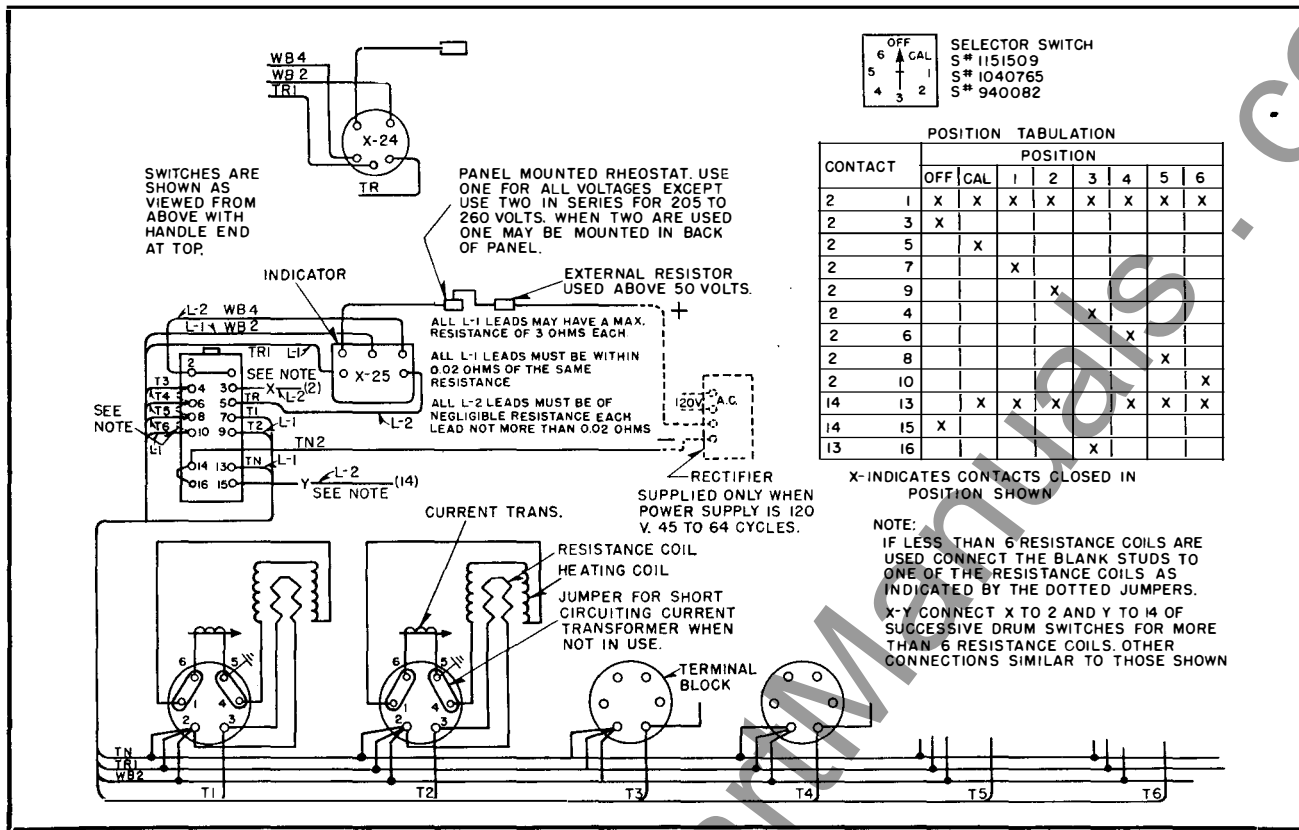

FIG. 2. Wiring Diagram for Temperature Indicator.
6. Mount the temperature indicator and resistance bridge on the switchboard and connect to the terminal box on the transformer as shown in Fig. 2 using 19-0226 (9700 C. M.) rubber-insulated weatherproof cable, or larger.